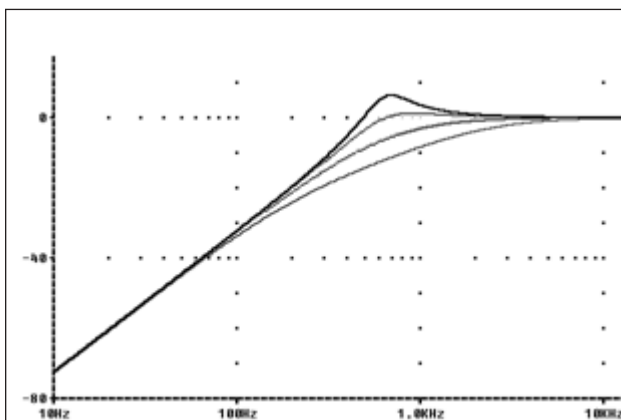

FIGURE 7: Effect of *Q* on the response of a second-order filter. (Curves represent *Q* of 0.25, 0.5, 1.0, and 2.0—from lower curve to upper curve.)
The other effect hidden in the equation is the "quality factor" (Q) of the filter. In general, Q is the ratio of energy stored to energy dissipated in a device or circuit. In the case of the filter of Fig. 5, the Q is expressed as $R/2\pi f L_2$, where the frequency (f) is generally considered the critical frequency of the circuit. (If the resistance were in series with the inductance, Q would be the inverse of this value.) Figure 7 shows the effects of varying the Q of a second-order filter circuit.